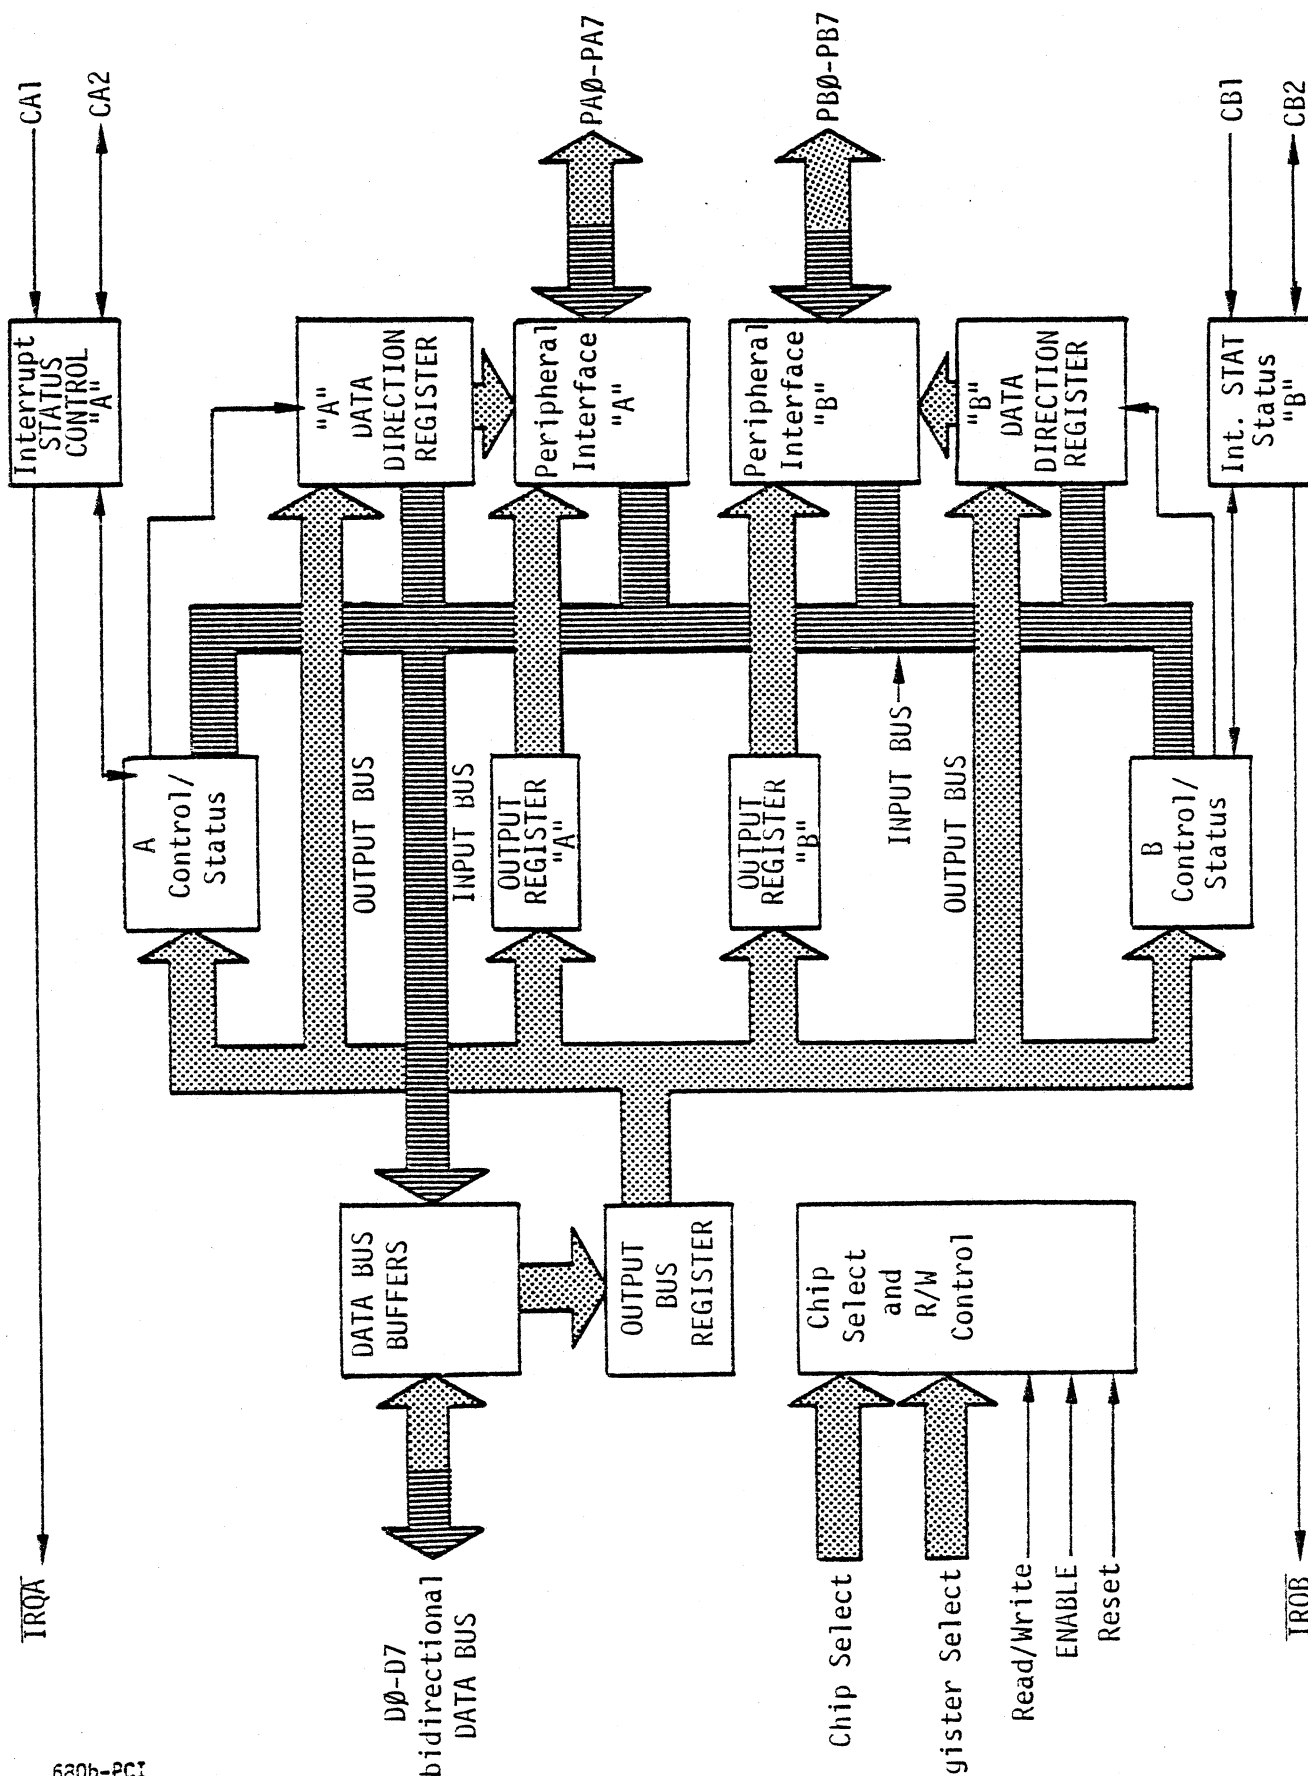

Figure 2-2. 6820 PIA Block Diagram
Refer to Figure 2-2. The 6820 Peripheral Interface Adapter (PIA) contains all the circuitry necessary to implement and control the eight incoming data lines (PA $\emptyset$ -PA7) from the opto-isolators, the eight outgoing data lines (PB $\emptyset$ -PB7) which control the relays and the two sets of bidirectional handshake lines. Handshake lines CA1 and CA2 are used with Section A, and lines CB1 and CB2 are used with Section B. The lines connecting the 6820 to the rest of the system consist of eight bidirectional data lines (D $\emptyset$ -D7), one interrupt request line ( $\overline{\text{IRQ}}$ ), lines to do chip select (CS $\emptyset$ , CS1 and  $\overline{\text{CS2}}$ ) and register select (RS1 and RS $\emptyset$ ) within the chip, lines to control read and write states (R/W), a line to enable the chip (E) and a line to reset the chip (RST).